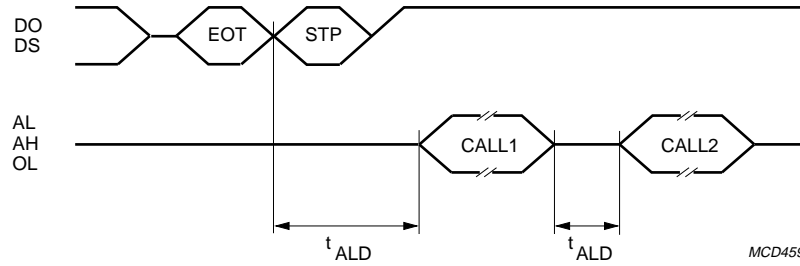

Fig.8 Call alert delay.
When valid calls are received while operating in ON status, the PCF5001 generates call alert cadences. The first four seconds are generated at LOW-level, a further twelve seconds are generated at HIGH-level. Alert tone generation and LED indication automatically terminate after sixteen seconds unless terminated by pulsing the status request and reset input (SR). Call alert generation is inhibited until completion of message codeword reception and the termination word is sent by the decoder. Call alert generation commences after an alert delay period, t_{ALD} , at the earliest, see Fig.8. Call alert deletion is possible during the alert delay period.